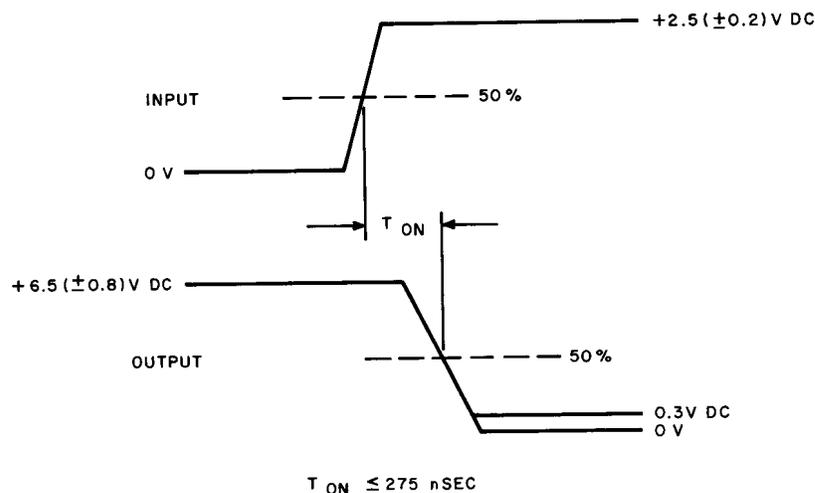

Fig. 2A — NOR GATE Test
(2) Set the frequency of the square-wave generator between 40 and 50 Hz.
(3) Set the DPDT switch to position 1.
(4) Set the GATE and TEST FUNCTION selector to position 1.
(5) Set the EXT SYNC TRIGGER to the (+) positive position.
(6) Rotate the GATE selector through positions 1 to 10. At each position, the input and output step shall be as specified in Fig. 2A.
(7) Set the TEST FUNCTION selector to position 2. Rotate the GATE selector through positions 1 to 8. Observe output as in (6). Time base measurements need not be made.
(8) Set the TEST FUNCTION selector to position 3. Rotate the GATE selector through positions 1 to 6. Observe output as in (6). Time base measurements need not be made.
(9) Set the TEST FUNCTION selector to position 4. Rotate the GATE selector through position 1 to 2. Observe output as in (6).